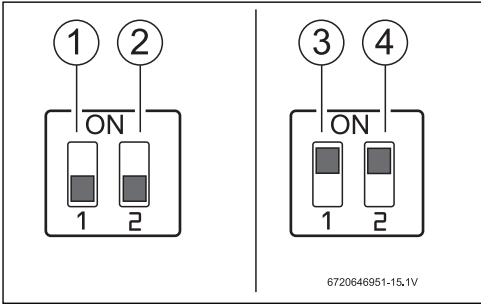

Fig. 12   Display DIP Switch
- Set the small dip-switches on the display printed circuit board in fig. 12 to display flow in the units desired. The display will show these measurements as shown in table 8. Once the switch has been changed to display flow rate, place the unit cover back on and turn on the electrical breakers.
- Remove front cover by undoing the retaining screws on the front. Remove the temperature knob by pulling up with slight force. Place knob and white bushing aside, and take the cover off the heater. Then reset the circuit board switches to display temperature, as shown in fig. 12 below.